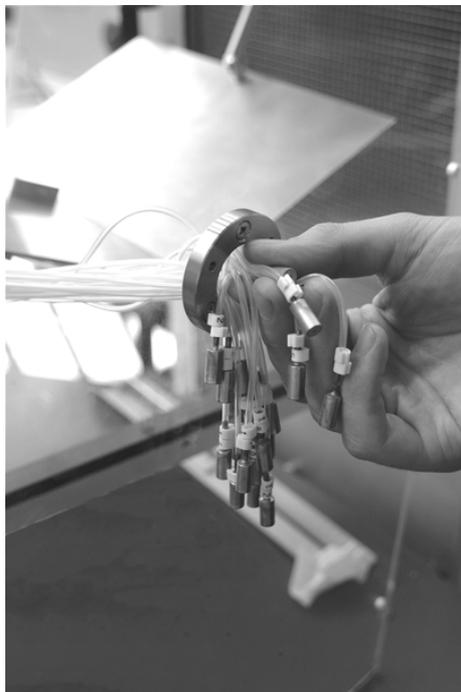

Figure 7 Pass the Tubes Through the Hole in the Side Panel
6. Pass the 25 tubes through the hole in the loose side panel and refit it (see Figure 7).